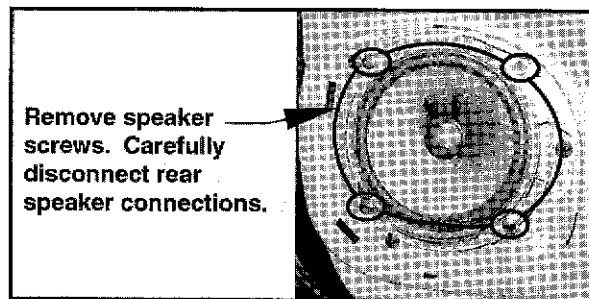

Figure 6
9. Remove the four speaker retaining screws and speaker, carefully disconnect rear speaker connectors. Set speaker aside to be reused (Figure 6).